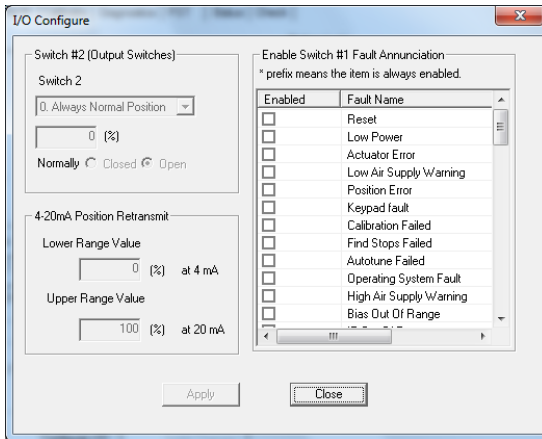

Figure 26 I/O Configure
This procedure gives an example, using the settings in Figure 26, to see if a switch is operating:
1. Click the **Configure** tab, click and Figure 26 appears.